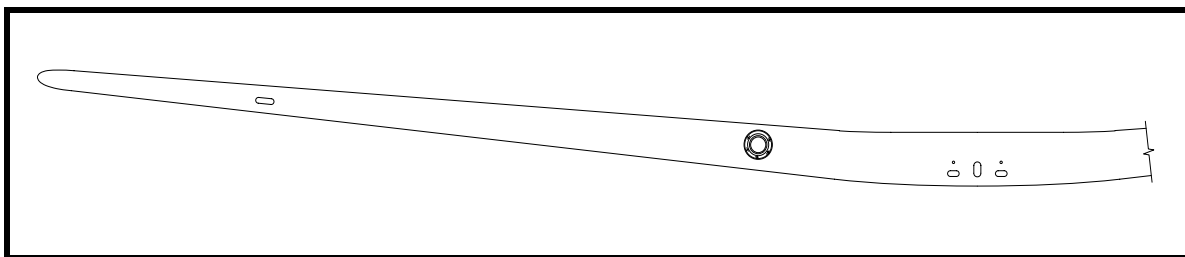

Figure 5
- ❑ When the epoxy has set, remove the front wing spar and drill the holes for P/N 766 through the main wing spar as shown in Figure 5.